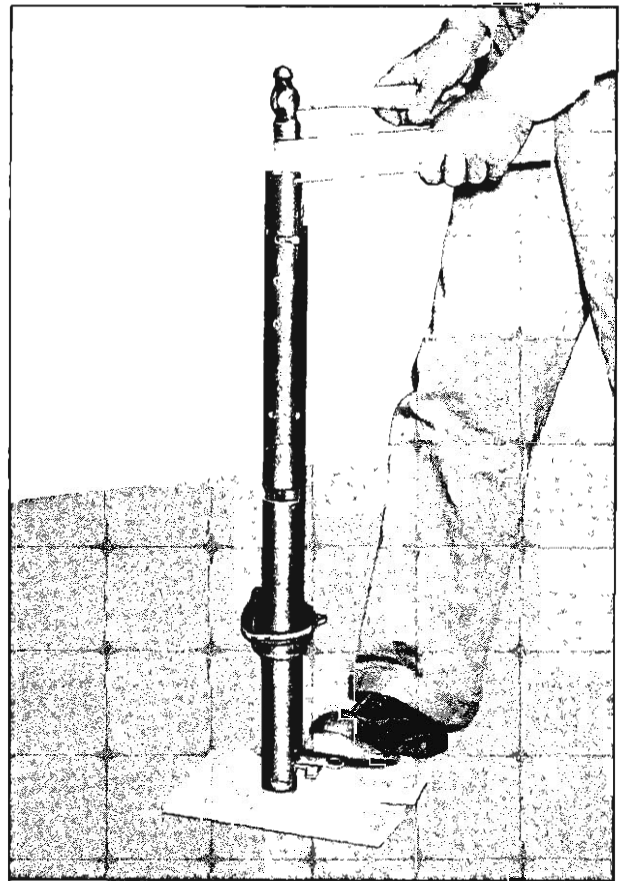

Fig. 18—Removing Shifter Tube
5. Remove shifting lever housing. Remove instrument panel cover. Place mast jacket upright on floor while supporting it with two pieces of wood. Push down on second and third speed lever with foot and place block of wood on upper end of tube. Tap on block to remove tube (fig. 18). Withdraw tube from mast jacket assembly.